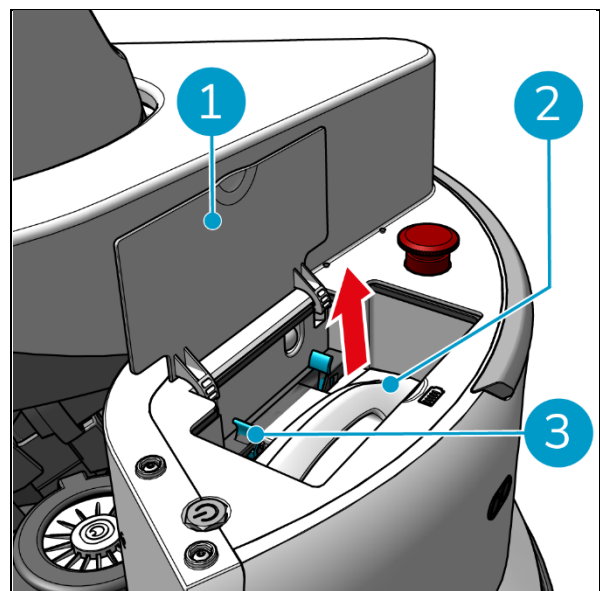

Figure 49
2. Open the battery compartment lid (Figure 49, pos. 1).
3. While pressing the blue tabs (Figure 49, pos. 3), pull the battery (Figure 49, pos. 2) out of the compartment.